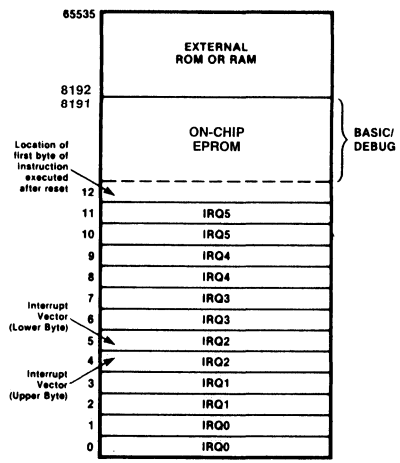

Figure 4. Program Memory Map
**Program Memory.** The 16-bit program counter addresses 64K bytes of program memory space. Program memory can be located in two areas: one internal and the other external (Figure 4). The first 8192 bytes consist of on-chip EPROM. At addresses 8192 and greater, the Z86E21 executes external program memory fetches.